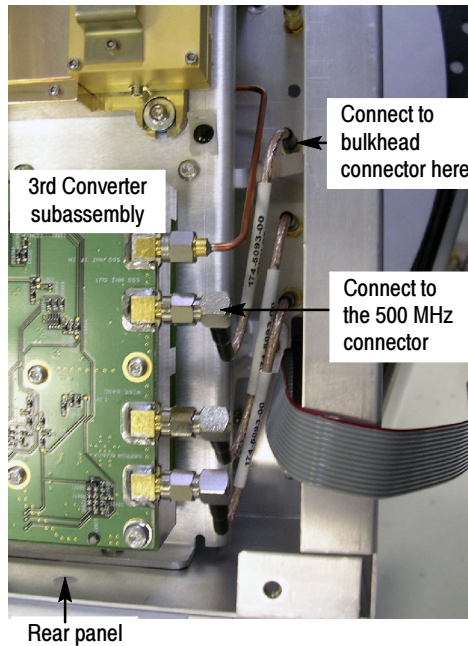

Figure 2: Attaching the cable to the 3rd Converter subassembly
2. Remove the termination from the **500 MHz OUT** connector on the 3rd Converter assembly (see Figure 2).